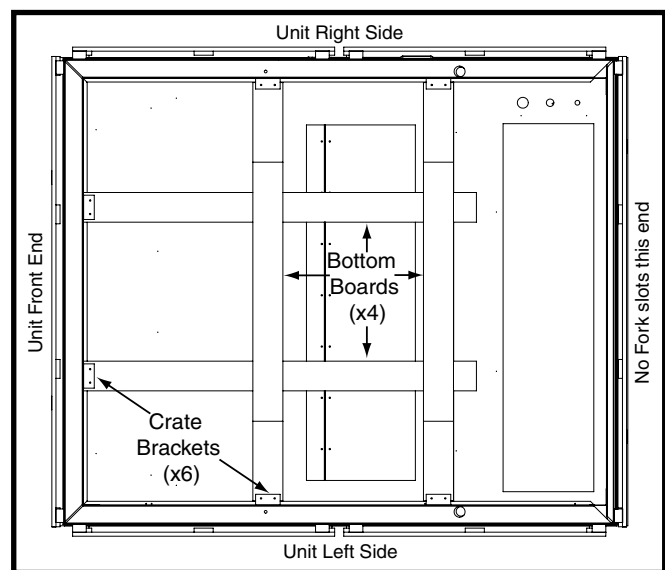

Figure 3. Bottom View
3. Remove crate brackets (Figure 3) securing four bottom boards to underside of unit. **NOTE:** Some screws are located in fork slots.